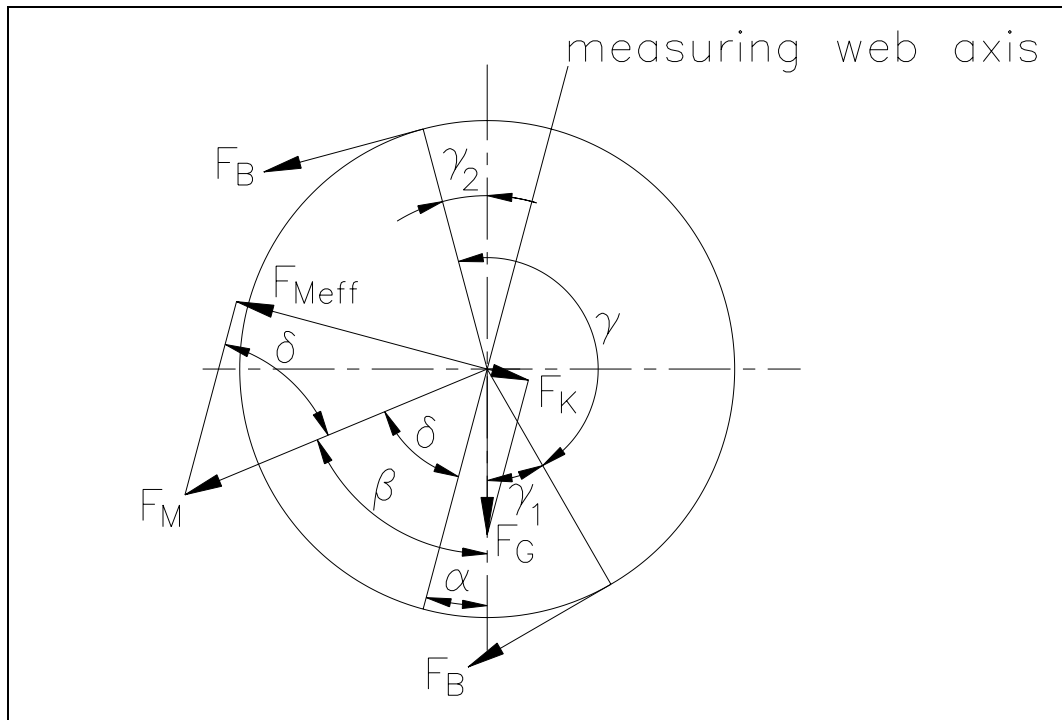

fig. 12: Force vectors in the FMS force measuring bearing
If the measuring point is operated with a varying wrap angle as it is found with winders or unwinders (fig. 13), the effective measuring force  $F_{\text{Meff}}$  is varying due to the geometric relations between  $F_B$  and  $F_{\text{Meff}}$  (ref. to fig. 12). The variations do also appear when material tension  $F_B$  is constant.
- Determine the following application data as accurate as possible referring to fig. 12: